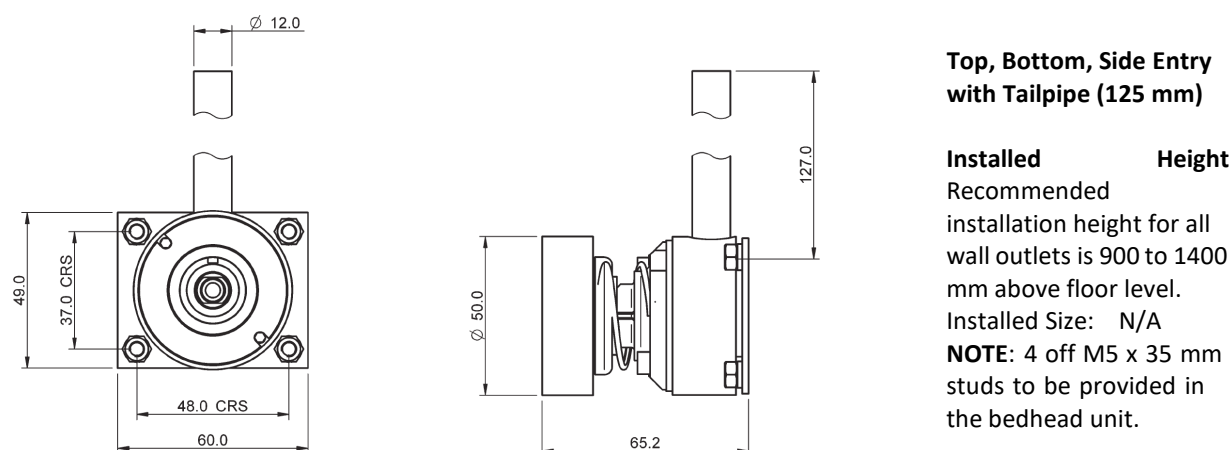

Figure 5-4 Bedhead Trunking - Top, Bottom, Side Entry
5.3.4 Bedhead trunking Mounted Terminal Units (Figures 5-4 and 5-5)